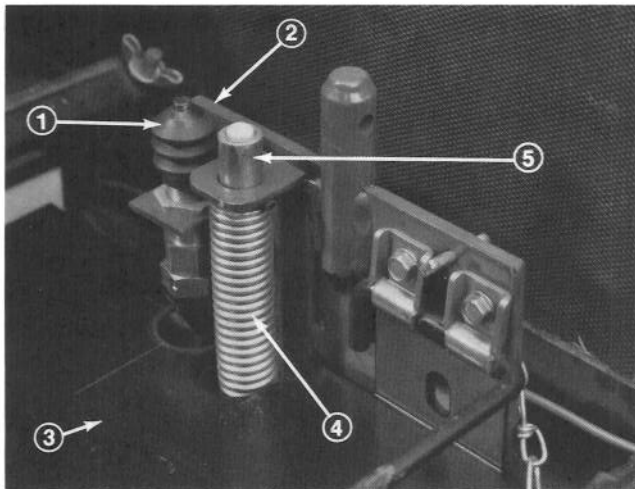

Figure 4
1. (Model 30741 only) Remove flange screw and locknut securing sealing plate, over fuel tank, to frame (Fig. 4). Remove sealing plate.
2. Insert pin part way into hole in top of seat support bracket on machine (Fig. 4).